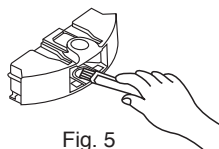

Fig. 5
4. With the air outlet unit removed, clean the air inlet/outlet with the dust brush (Refer Fig. 5).